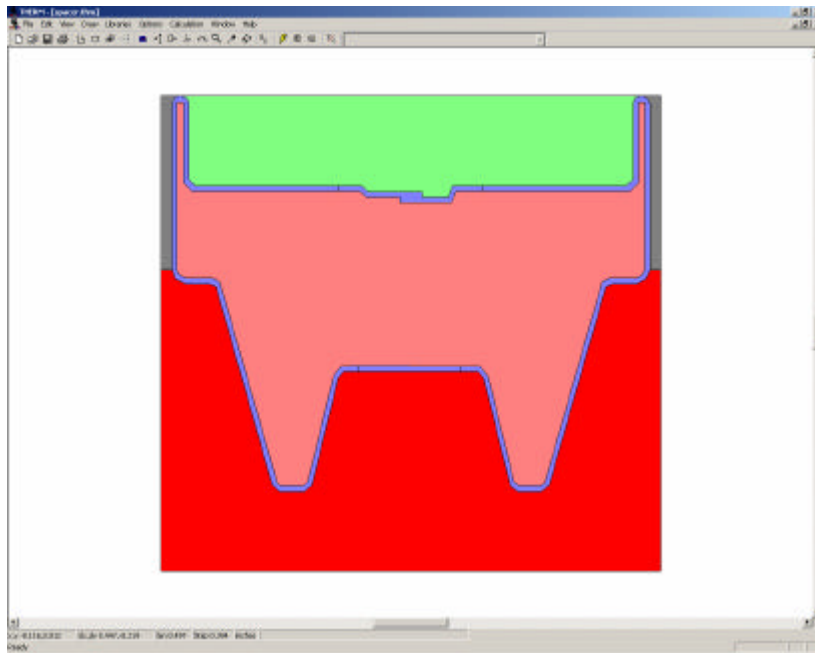
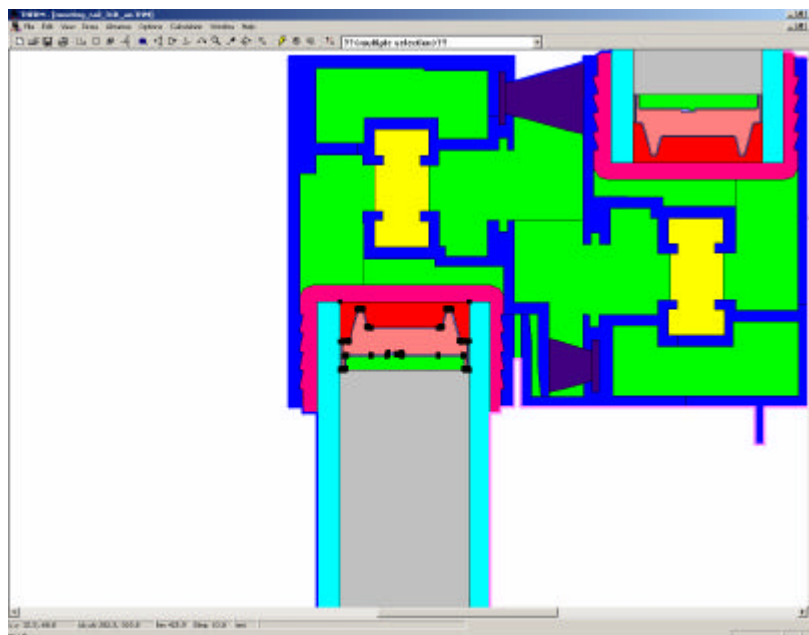

Figure 4-4: Spacer inserted from THERM Spacer Library in the newly opened THERM5 file
Figure 4-5: Spacers inserted in both glazing systems of a meeting rail
At the same time, chosen spacer is inserted, with the Locator placed at its **upper left corner**, in the newly opened THERM file, shown in Figure 4-4.
- For windows with glazing facing down, it will be necessary to Flip (Draw/Flip/Vertical) the spacer in the opened THERM 5 file (shown in Figure 4-4), draw locator in the lower left corner of the spacer model and press copy (Edit/Copy). In the fenestration model, draw locator in the lower left corner of the spacer void, and press Paste (Edit/Paste). Figure 4-5 shows both spacers inserted into the meeting rail cross section.